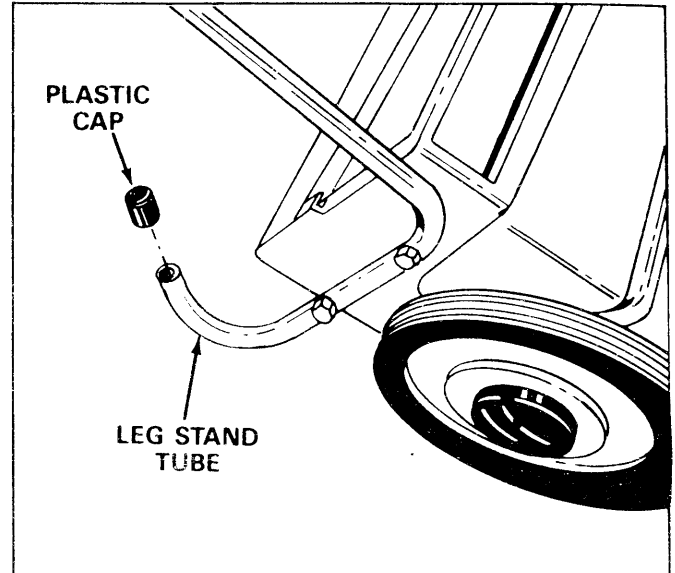

FIGURE 7
- Assemble the two plastic caps (3/4" x 7/8" long) on the end of the leg stands as shown in figure 7